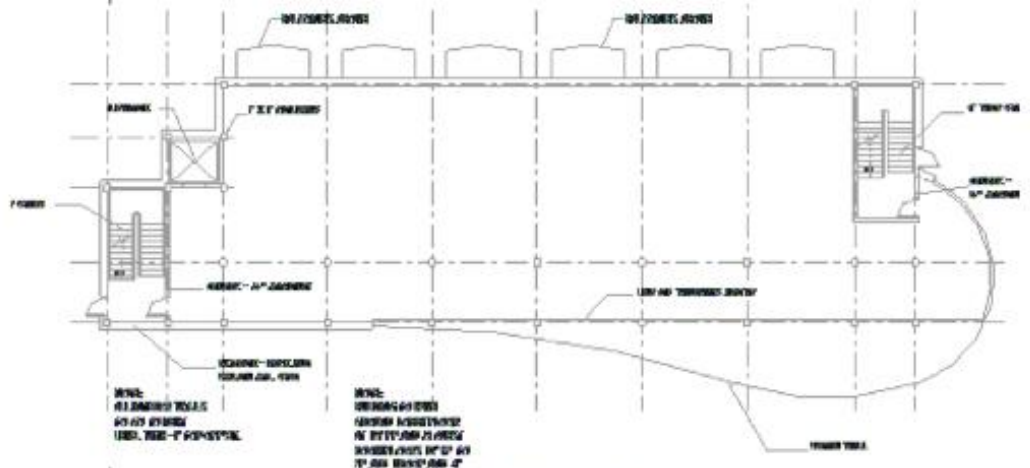

Figure 3–33
11. Click in empty space to release the selection. The linked file displays in halftone with columns and grids, as shown in Figure 3–33.